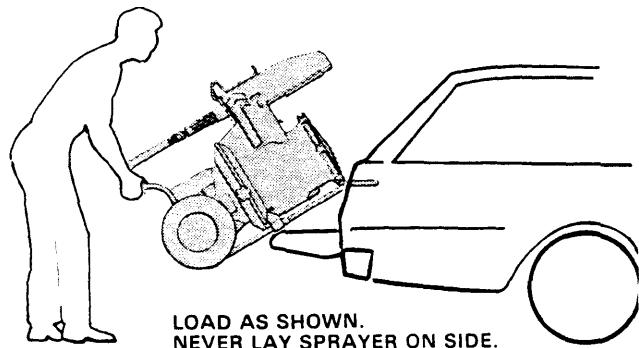

Fig 8
10. To transport the sprayer, empty the wet-cup, or, reduce the level of Throat Seal Liquid (TSL) to 1/3 full or less, and stuff a rag into the wet-cup. Load the sprayer as shown in Fig 8. To avoid leakage of hydraulic fluid, never lay sprayer on its side.